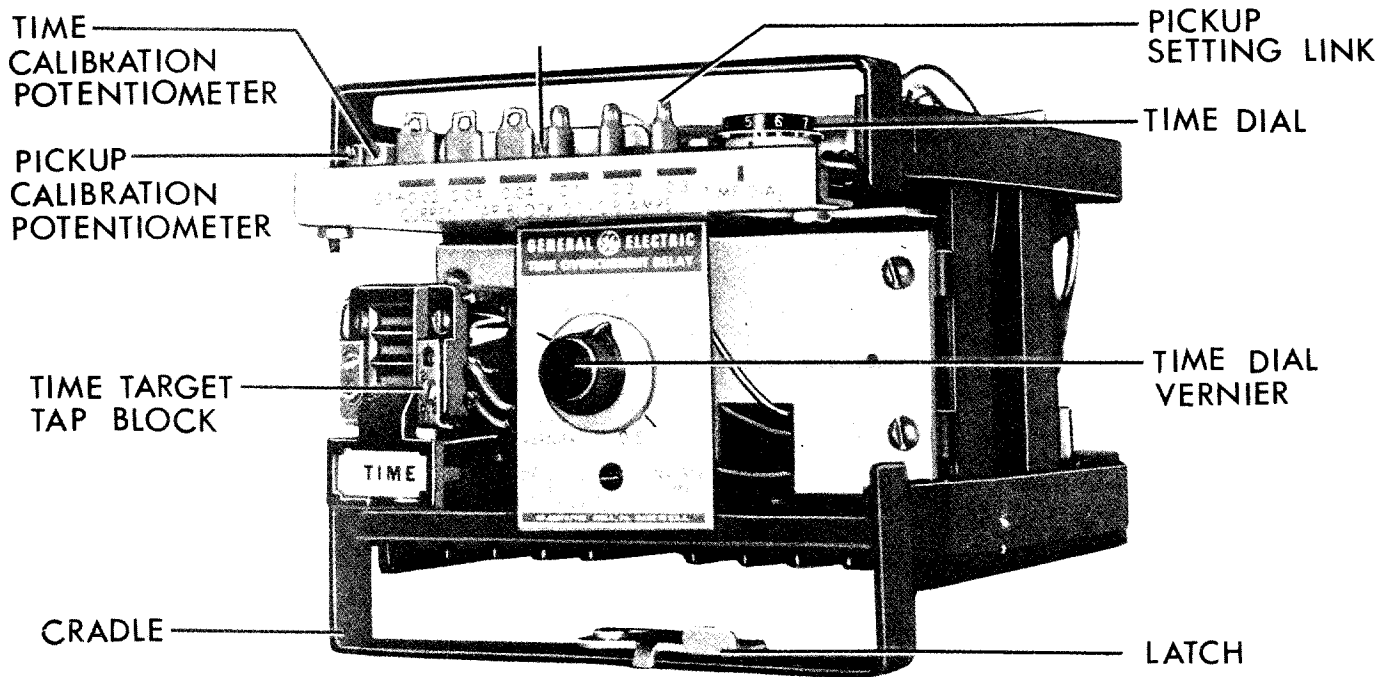

Figure 13 (8042626) SFC151D(-)A Relay - Front View
The three adjustments used in setting the time-overcurrent unit are the current tap block, the time dial, and the time dial vernier pot. These adjustments are on the front of the relay and can be seen in Figure 13.
EXAMPLE OF SETTING: For example, if it were desired to set a 0.1/0.8 amp relay for a pickup of 0.26 amps, the 0.02, 0.04, and 0.1 amp links would be set in the "in" position. All other links would be set to be "out". As indicated on the tap plate, the setting of the relay would be minimum tap (0.1 amp for a 0.1/0.8 amp relay) plus the sum of the weights of the links in the "in" position. This is $0.1 + 0.02 + 0.04 + 0.1$ or 0.26 amperes. The 0.1/0.8 relay in Figure 13 has a tap setting of 0.2 ampere.
The time dial vernier is a potentiometer which is mounted on the front of the relay in the center of the nameplate. This vernier may be used to set the relay between integer time dial curves. The vernier setting adds to the integer time dial setting of the time dial switch. The fully counterclockwise position corresponds to a time dial vernier setting factor of 0. There are two stamped marks in the nameplate for setting factors 0.5 and 1.0. Intermediate setting factors are interpolated. See Figure 13.
The pickup calibration potentiometer is the pot that is farthest to the left when the relay is viewed from the front. The time dial calibration pot is to the right of it, towards the time dial. See Figure 13.
The time target unit has an operating coil which has two taps. The relay is shipped from the factory with the tap screw in the lower ampere position. The tap screw is the screw holding the right hand stationary plate. To change the tap setting, first remove one screw from the left hand stationary plate and place it in the desired tap. Next, remove the screw from the undesired tap and place it on the left hand stationary plate where the first screw was removed. See Figure 13. This procedure is necessary to prevent the right hand stationary plate from getting out of adjustment. Screws should never be left in both taps at the same time.
5. If the procedure of steps 3-4 is not possible the pickup of the relay may be changed by adjusting the pickup calibration potentiometer (first potentiometer from left viewing printed circuit card from front - see Figure 13 - see Figure 13). Note that clockwise turning increases relay pickup.
To adjust trip time, the time calibration potentiometer (second 20-turn potentiometer from left viewing printed circuit card from front - see Figure 13) is turned clockwise for more time and counterclockwise for less time.